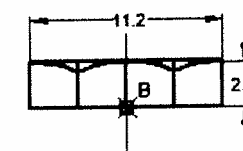

Figure 6-14b
- Create the head block with point B selected as the base point, Figure 6-14b.